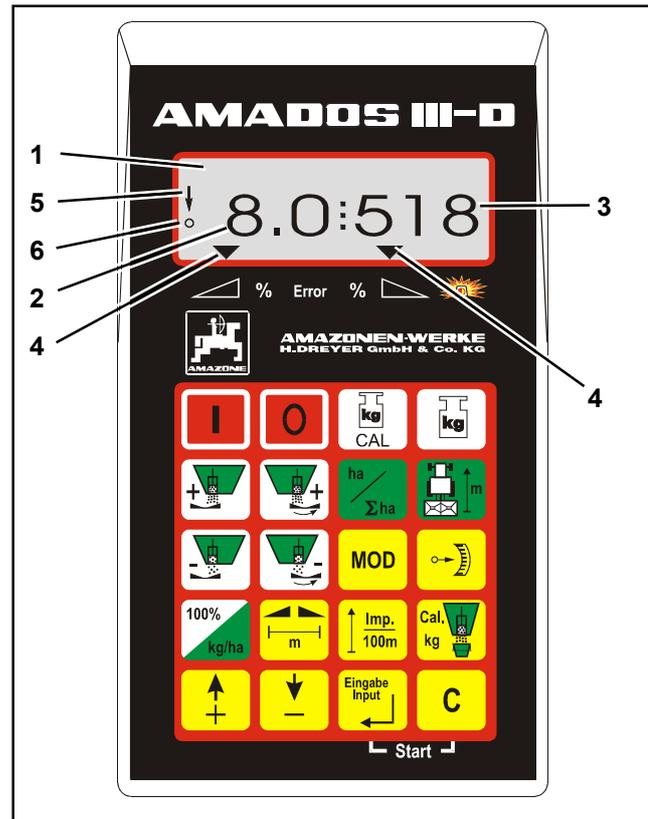

Fig. 1
AMADOS III-D is supplied with a 6-digit display (Fig. 1/1). In operation position of the implement, the display shows:
- the current forward speed (Fig. 1/2) in [k.p.h.],
- the current spread rate (Fig. 1/3) in [kg/ha] and
- function control elements (Fig. 1/4) as, e. g. left and right hand shutter open.
On the left hand edge of the display additionally 2 symbols are shown. The vertical arrow (Fig. 1/5) appears while travelling the calibration distance to determine the fertiliser calibration factor (only profiS broadcasters). The circle below (Fig. 1/6) should flick during operation and indicates that the sensor for counting the area or the travelled distance is transmitting impulses to the AMADOS III-D.